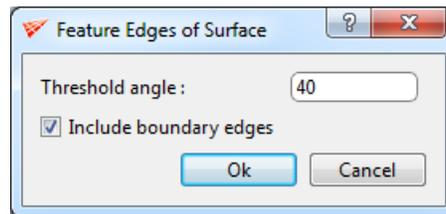

Figure 4.138: Feature edges dialog box
*Feature edges* is the foremost tool to be used while creating the surface. This creates corners on the *current* surface slope discontinuity using the surface nodes otherwise called as *surface triangulation nodes*. Once the **feature edges** is selected from the drop-down list, a dialog box opens as shown in Figure 4.138. You need to input the **threshold angle** to calculate/find out where the slope discontinuities are. By default, it takes 40 degrees. The feature angle will be calculated at every node on the *current* surface, wherever it exceeds the given feature angle, a corner will be created on that node which will be later linked with the corners created adjacent to it and also assigned to the *current* surface. You can also include/exclude the boundary edges of the surfaces from using this utility. Including the boundary edges will make the utility calculate the feature angle on the surface boundaries also and create corners if it exceeds. This can be done by checking/unchecking the **include boundary edges** check box.